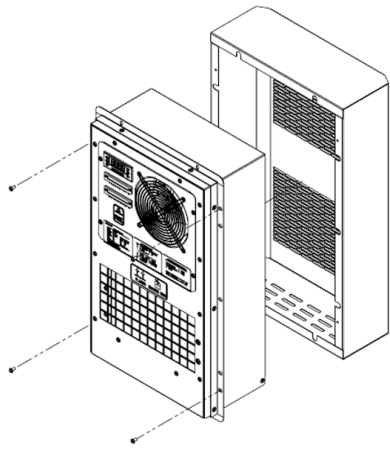

Figure 1
3. Need to remove the cover firstly, if the unit with covers, see Figure 1;